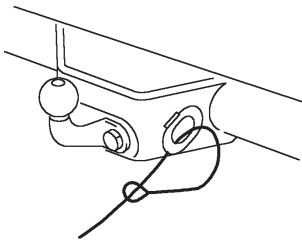

Fig 1
- Pass the cable through the attachment point and clip it back on itself (Fig 1).